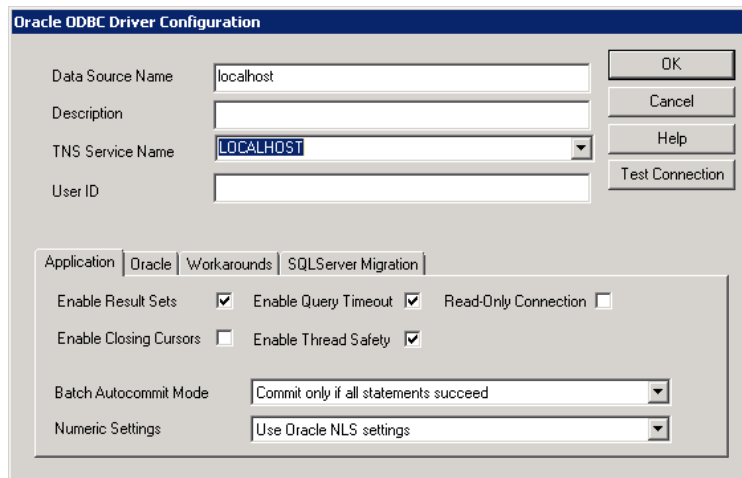

Figure 52. Oracle ODBC Driver Configuration Dialog Box
4. Select `Oracle` in `OraDb11g_ADVA` and click **Finish**. This launches the Oracle ODBC Driver Configuration dialog box (Figure 52).
5. Set the Data Source Name and TNS Service Name fields to `localhost`, as shown in Figure 52.